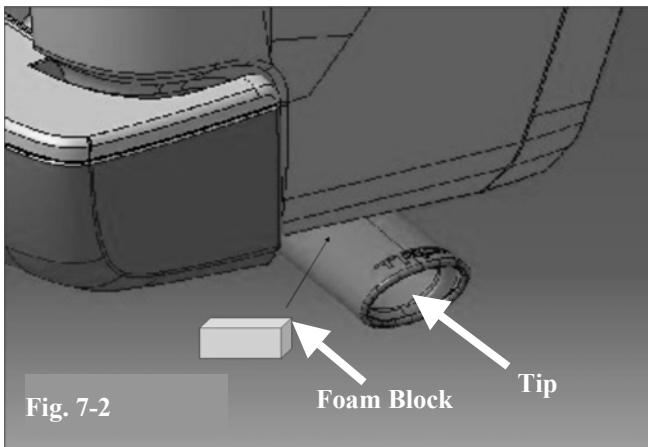

Fig. 7-2
- (b) Insert a foam block to set a gap of 32 mm between the exhaust tip and the rear side panel (Fig. 7-2).
- (b) Insert a foam block to set a gap of 32 mm between the exhaust tip and the rear side panel (see Fig. 7-2 on previous page).